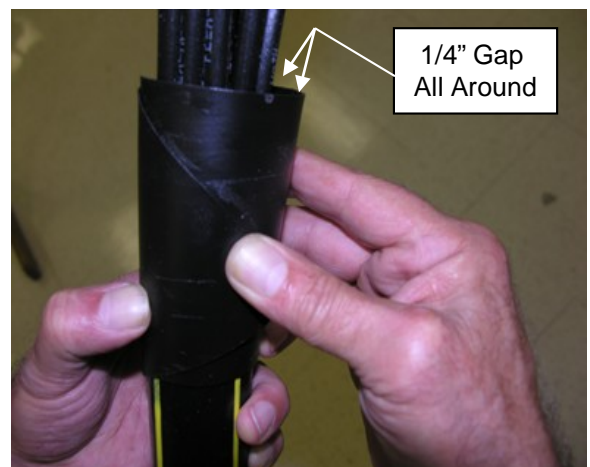

Figure 15
12.5 While holding Container in place, adjust top edge so that there is about a 1/4" even gap or separation between it and tube cable jacket. **See Fig. 15.**